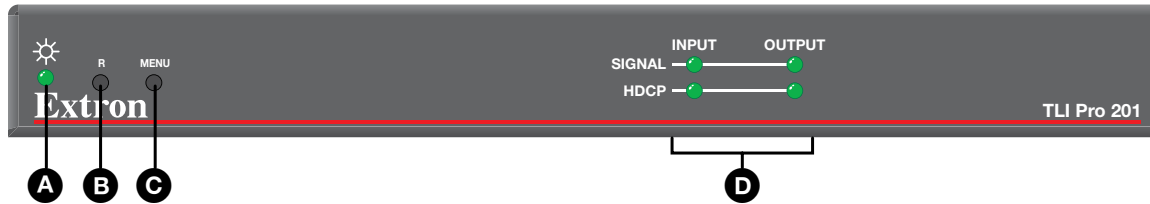
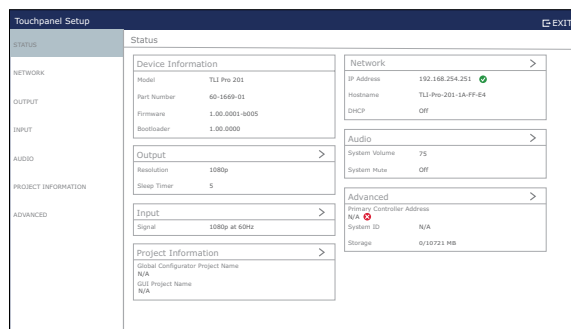

Figure 4. TLI Pro 201 Front Panel
Figure 5. Setup Menu
- **Use Factory Firmware:** Press and hold the **Reset** button (see figure 4, B, on the previous page) while applying power to the unit. Use this mode to replace firmware in the event of firmware failure.
Press the **Menu** button (see figure 4, C, on the previous page) to show the setup menu (see figure 5) on the connected display. There are seven available screens that are selected by pressing the appropriate button in the navigation bar on the left side of the screen.